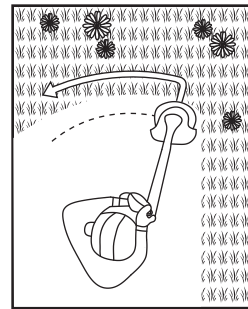

Fig. 20
5. Move the product with a slow regular arc from left to right before moving it back to the starting position before trimming the next area (Fig. 20).